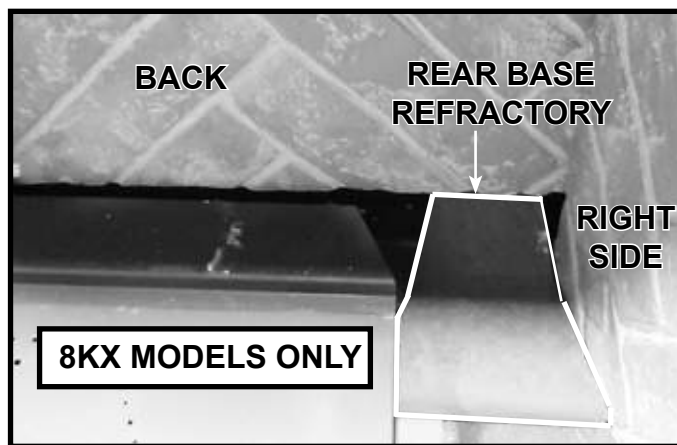

Figure 11.7 8KX Models Only: Rear Base Refractory Piece Installed (Right Side Shown)
7. **42 Inch Models Only:** Place the rear base refractory pieces on the left and right sides in the rear of the firebox. Push back and toward the side of the firebox as shown in Figure 11.7. The base refractory piece should contact the side and back refractory panel.